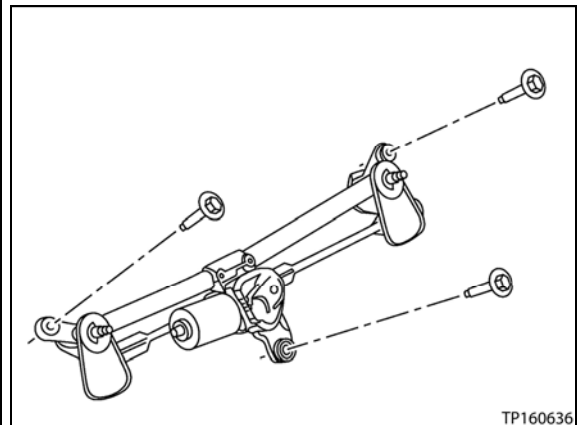

Figure 8
- g. Disconnect the electrical connector, remove the three (3) bolts, and then remove the wiper drive assembly (see Figure 8).